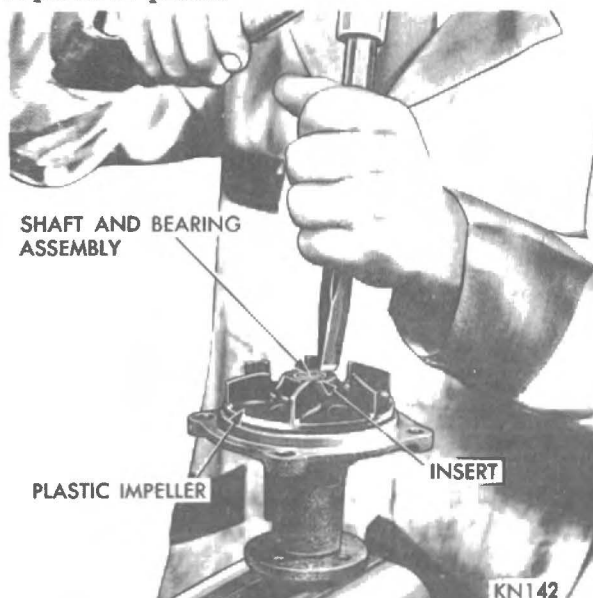

Fig. 9 - Breaking the plastic impeller.
(1) Break the plastic impeller (See Fig. 9) and remove it from the metal insert.